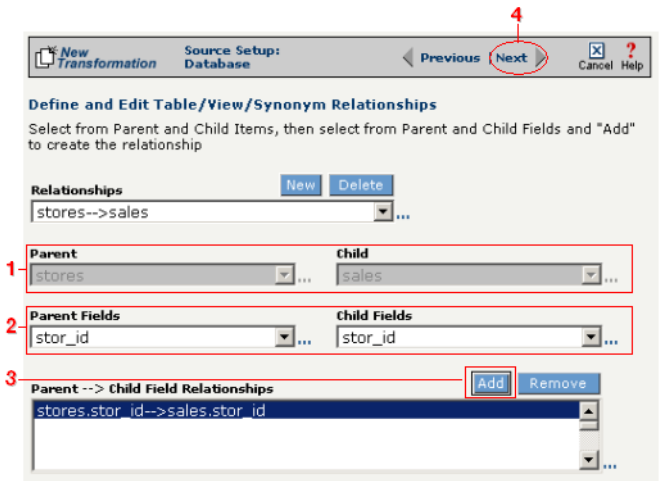

Figure 3-13. Use this screen to define your source database's hierarchical relationships.
- 4 Compare your work with Figure 3-13 below, then click **Next** to continue.